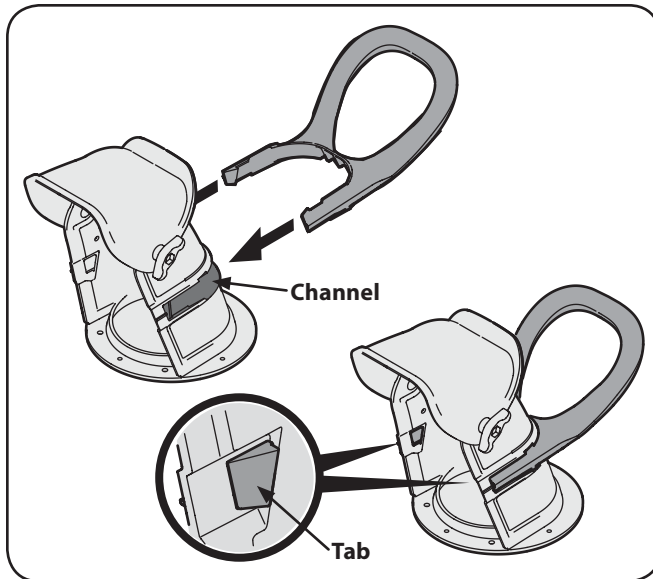

Figure 3-3
1. Place the chute handle on the lower chute as shown in Fig. 3-3. Be certain that the handle is aligned in the channel on the chute and the tabs snap into place.
2. Position the chute assembly opening by using the chute handle to throw the snow in the desired direction. See Fig. 3-3.